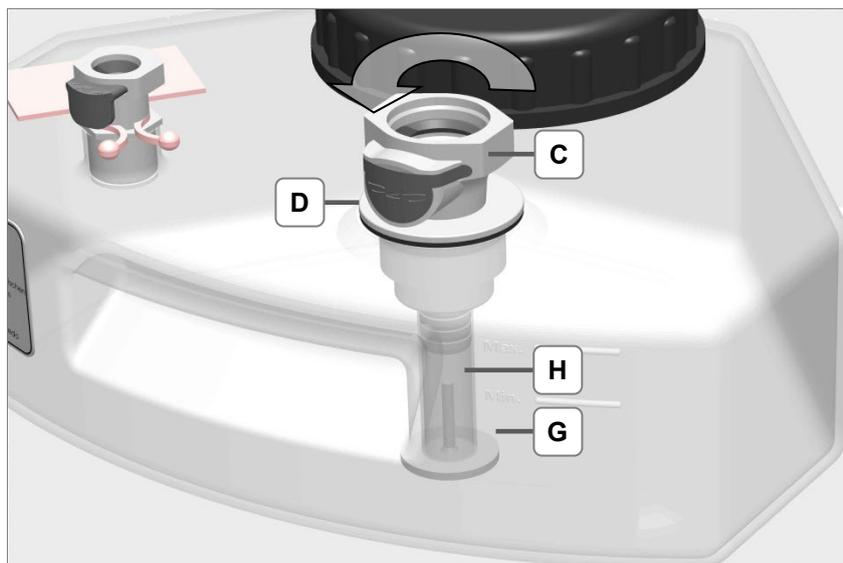

Fig. 9.2.2.1 Quick coupling and suction filter
1. Turn the quick coupling (*Fig. 9.2.2.1.C*) anticlockwise out of the media tank. The suction filter (*Fig. 9.2.2.1.G*) is now loose in the media tank.
4. Replace the seal (D) if necessary.
5. Replace the filter on the floor of the media tank and screw in the quick coupling again. Ensure that the stem of the suction filter is located in the suction tube (*Fig. 9.2.2.1.C*) and can move freely.